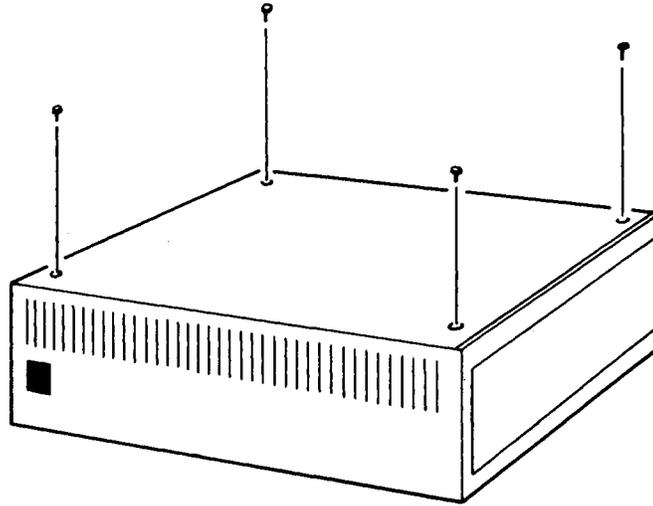

Fig. 10-4. Removing the Ω 400 Bottom Cover
3. Remove the four screws that attach the bottom cover. (See Fig. 10-4.) Remove the cover.